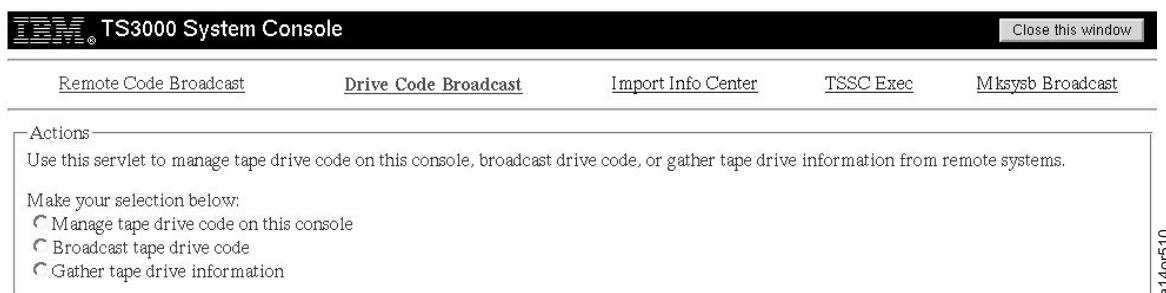

Figure 3-18. Drive Code Broadcast Web Interface
- Select **System Tools > Drive Code Broadcast**. You see Figure 3-18.